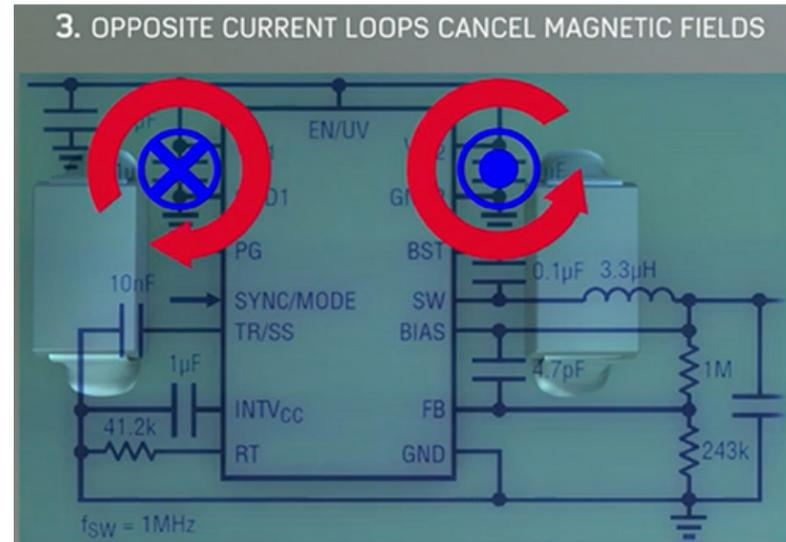

Figure 7: An internal layout with current loops in opposite directions also cancels undesired magnetic fields. (Image source: Analog Devices)
The MAX16161 and MAX16162 can be used as simple power supply sequencers (**Figure 7**). After the output voltage of the first regulator becomes valid, the MAX16161/MAX16162 insert a delay and generate the enable signal for the second regulator after the reset timeout period. Because the MAX16161/MAX16162 never de-assert reset until the supply voltage is correct, the controlled supply is never incorrectly enabled.
Figure 7: A circuit using the MAX16161 can be configured so the device not only ensures glitch-free power-up but also manages power-rail sequencing between two rails. (Image source: Analog Devices)
- Technique #3: Finally, the use of opposite current loops to cancel magnetic fields (Figure 7).